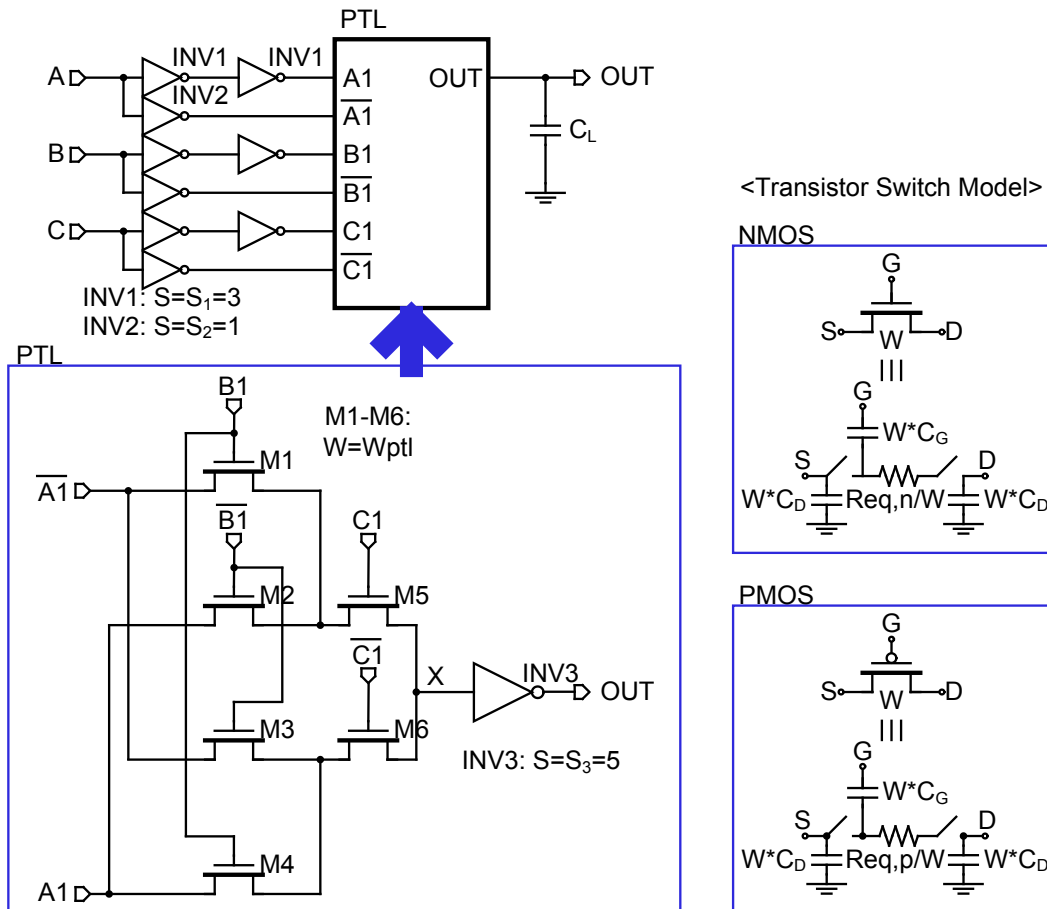

Fig.2 Pass Transistor Logic (PTL)
Consider the pass-transistor logic network of Fig. 2. The following (transistor) parameters are given: $V_{TN}=|V_{TP}|=V_T=0.3V$ and $V_{DD}=1.2V$. You may ignore body effect. $C_L=20fF$. L of all transistors equals $0.1\mu m$. The equivalent model of the NMOS and PMOS transistors is given in the Figure as well. The model parameters can assumed to be constant and are NOT a function of biasing conditions. The nominal values for the parameters are given as: $Req_n=12k\Omega/\square$ and $Req_p=24k\Omega/\square$ (where the \square denotes the W/L ratio); and $C_G=2fF/\mu m$, $C_D=1fF/\mu m$ (expressed as a function of the transistor width).
(a) (1 pts) What is function OUT of the circuit of Fig.2 as a function of the A, B, and C inputs?
- (b) **(4 pts)** Assume that the critical path of the circuit of Fig.2 is from input A to OUT. For the sake of simplicity, **we decided to make all the pass-transistors (M1-M6) equal (size: Wptl)**. We now want to size these transistors so that the delay from A to OUT for a step input from 0 to V_{DD} is minimized. Draw a **CLEAR** diagram of the critical path of the circuit with the related capacitors annotated, and provide an expression for the value of each capacitor and resistor in your diagram.